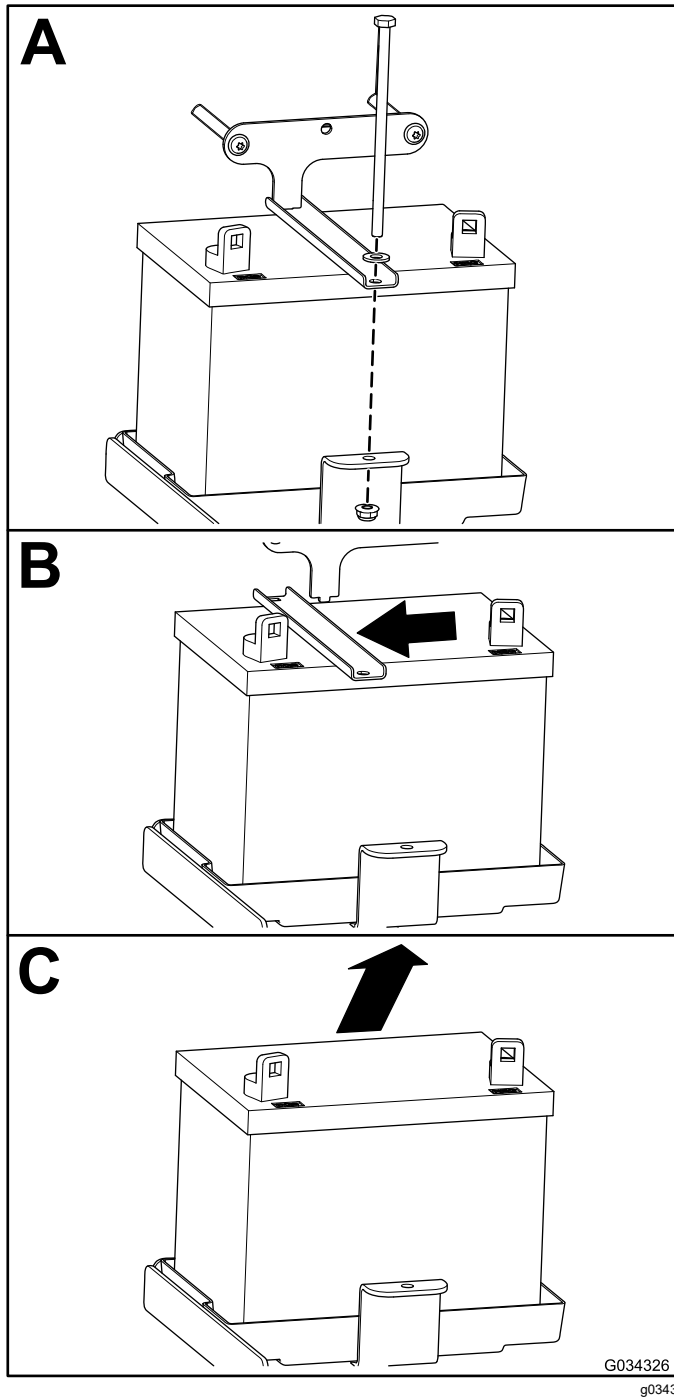

Figure 48
2. Remove the battery as shown in Figure 48.